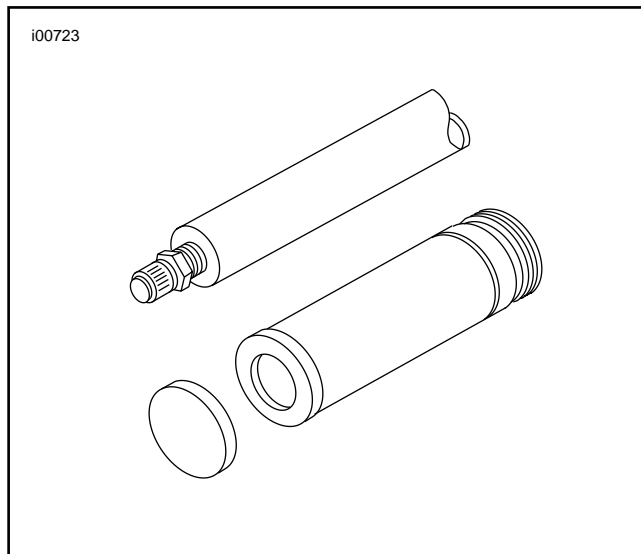

Figure 1. Aligning Left Grip With Air Valve Ends
3. See Figure 1. For models with handlebar mounted air valve on left handlebar, move switch housing, if necessary. This will ensure proper fitting of grip end cap.